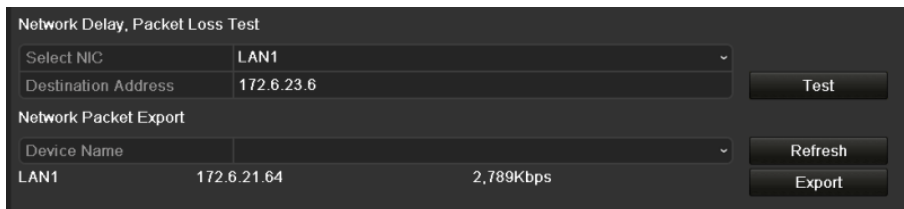

Figure 11-29 Network Detection Interface
Step 2 Click the **Network Detection** tab to enter the Network Detection menu, as shown in Figure 11-29.